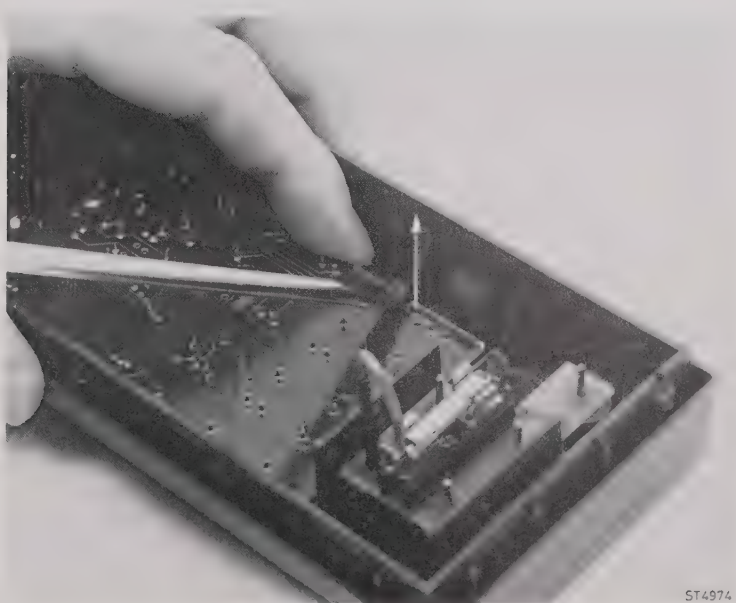

Figure 6.1
- Bend out the six hooks and lift the PCB out of the front assembly (figure 6.1)